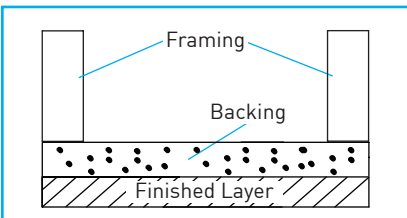

Fig.23
**Note:** Backing required for remodel installations, reference "Fig. 23"